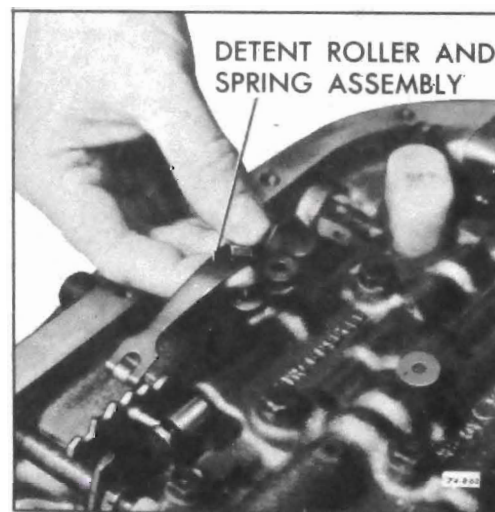

Figure 76-784
6. Install control valve assembly attaching bolts and detent roller and spring assembly. Make certain the lead wire clip is installed. Center roller on detent lever. See Figure 76-784.